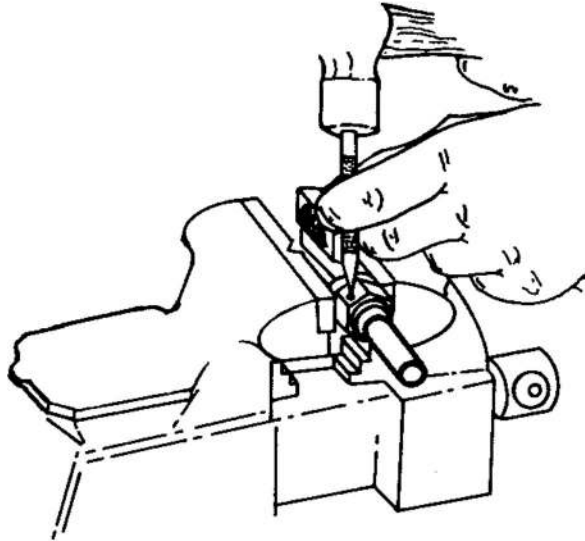

Fig 3 Setting the retaining wire
(5) Drive the wire into the nut by tapping with a small hammer and finally by using a flat punch to set the wire end below the hexagon surface (fig 3).